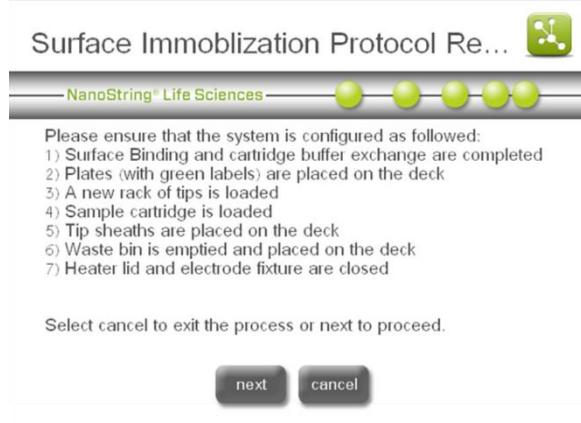

Figure 136: The ‘Surface Immobilization Protocol Recovery’ instructions.
2. Instructions will appear on the next screen (**Figure 136**). Follow the instructions on the touchscreen to configure the system for the surface immobilization protocol.